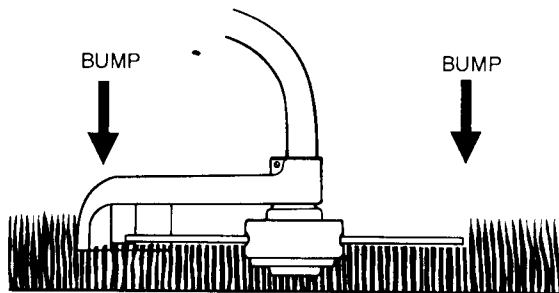

Figure 7-2A
**NOTE:** The bump-and-feed stringhead allows for quick and easy line feeding without the need to stop engine to advance line. (Figure 7-2A)